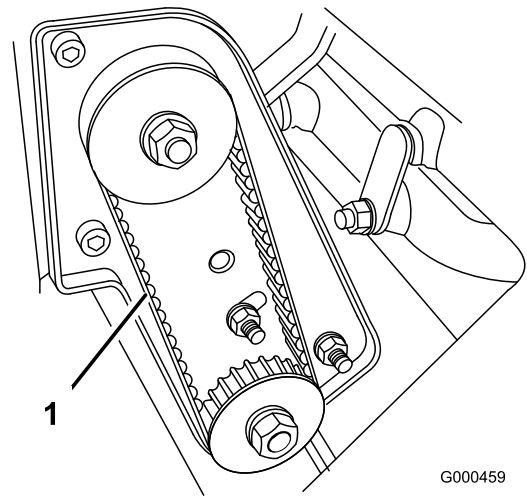

Figure 35
2. Check tension by depressing belt (Figure 35) at mid span of pulleys with 4 ± 1 lb. of force. Belt should deflect 3/16 to 5/16 inch (4.8 to 7.9 mm). If the deflection is incorrect, proceed to next step.